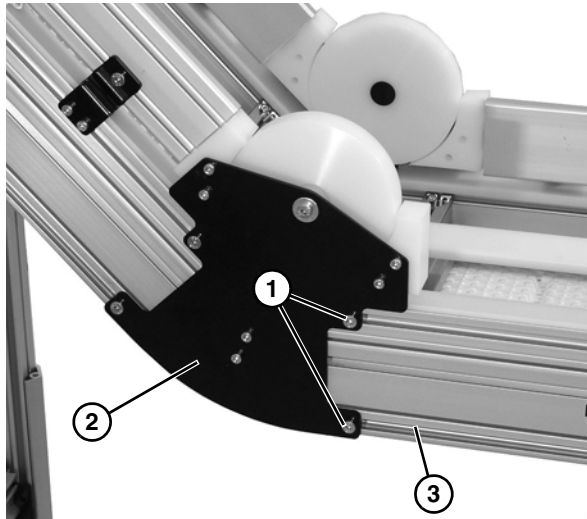

Figure 8
2. Attach lower knuckle to frame by loosening two socket head cap screws (**Figure 8, item 1**) on each side of lower knuckle assembly (**Figure 8, item 2**), and sliding T-Nuts into straight frame section (**Figure 8, item 3**).